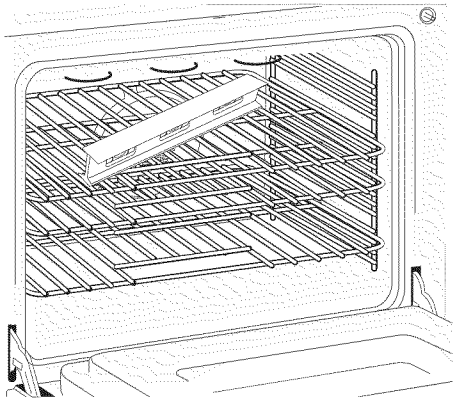
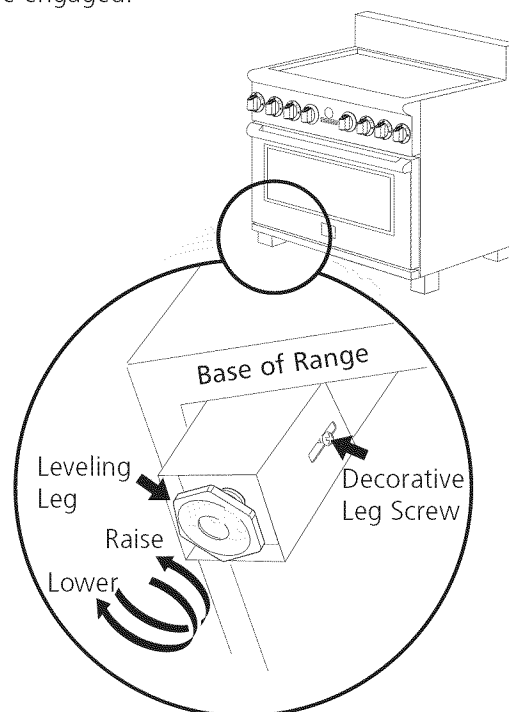

Figure 10
Figure 18
2. Place a level on the rack (see Figure 10). Take 2 readings with the level placed diagonally in one direction and then the other. Level the range, if necessary, by adjusting the 4 leveling legs with a wrench (see Figure 18).
6. Level range if necessary, by adjusting the 4 leveling legs with an adjustable wrench. Loosen the screw which fixes the decorative leg and lift it to reach the leveling leg. Turn the leveling leg counterclockwise to raise the range or clockwise to lower the range (see Figure 18). Replace the decorative legs at your convenience.